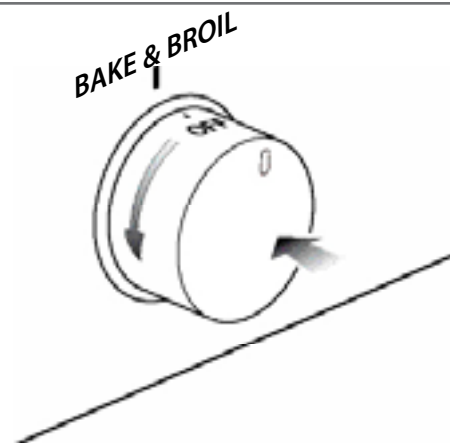

Fig. 3.3 Oven control knob
- 2) Press the oven control knob right down and, keeping it pressed, turn counter-clockwise (fig. 3.3) to max position 8.